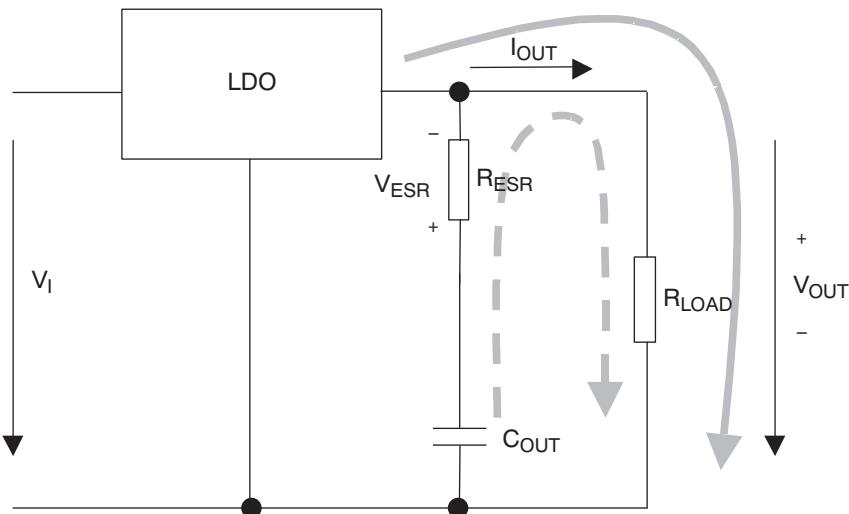

Figure 38. LDO Output Stage with Parasitic Resistances ESR
Figure 38 shows the output capacitor and its parasitic resistances in a typical LDO output stage.
- The LDO is not able to supply the sudden current need because of its response time. Therefore, capacitor C_O provides the current for the new load condition (dashed arrow). C_O now acts like a battery with an internal resistance, ESR. Depending on the current demand at the output, a voltage drop occurs at R_{ESR} . This voltage is shown as V_{ESR} in Figure 38.